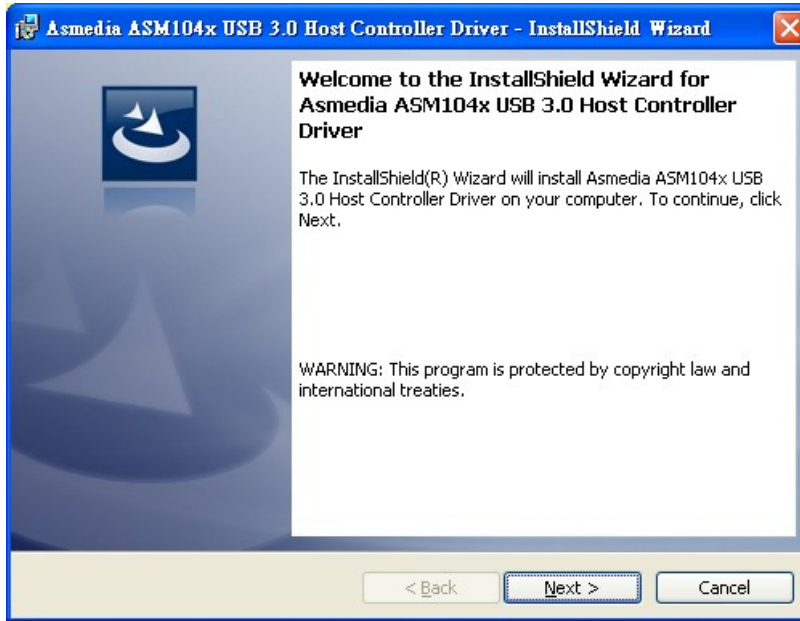

Figure 6-23: USB 3.0 Driver Welcome Screen
- Step 4:** A **Welcome Screen** appears (**Figure 6-23**).